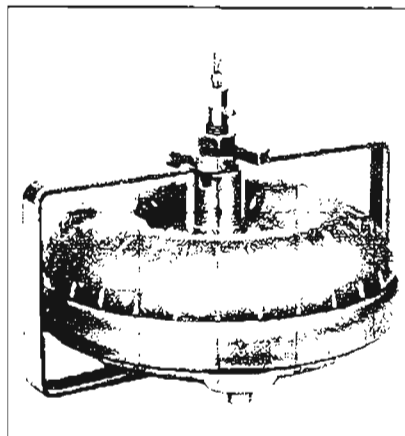

Figure 5-356
- a. Install Tool J-21369 and tighten. See Figure 5-356.